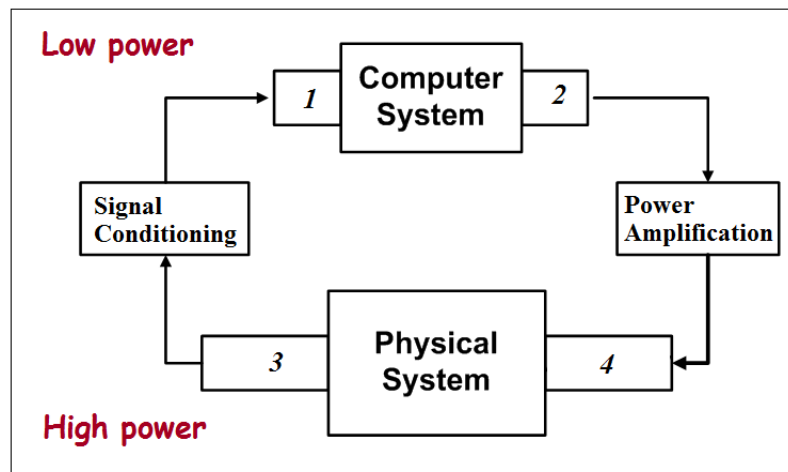

Figure 1: Block diagram of a mechatronic system
- (a) Describe the **four (4)** key elements of mechatronics. (4 marks)
- (b) Explain the differences between open-loop control system and closed-loop control system and give **one (1)** example of each system. (4 marks)
- (c) Refer to **Figure 1**, name and explain the elements of 1, 2, 3 and 4. (6 marks)